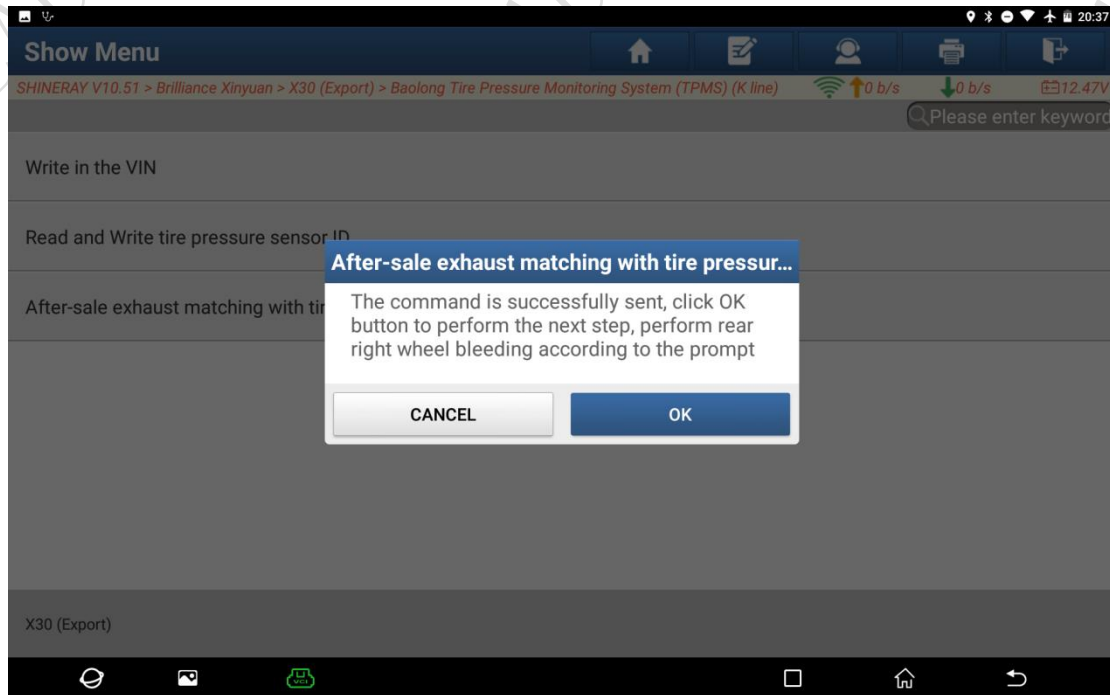

Figure 14
14. During the process, check whether the sensor ID has been learned. If it is completed, click [OK] to continue learning the RR wheel sensor ID. Click [CANCEL] to exit the learning process, as shown in Figure 14.